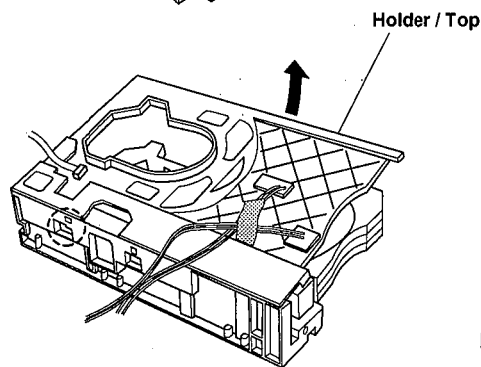

Fig. 2
- Lift the right side of the Holder / Top and remove it as shown in Fig. 2.